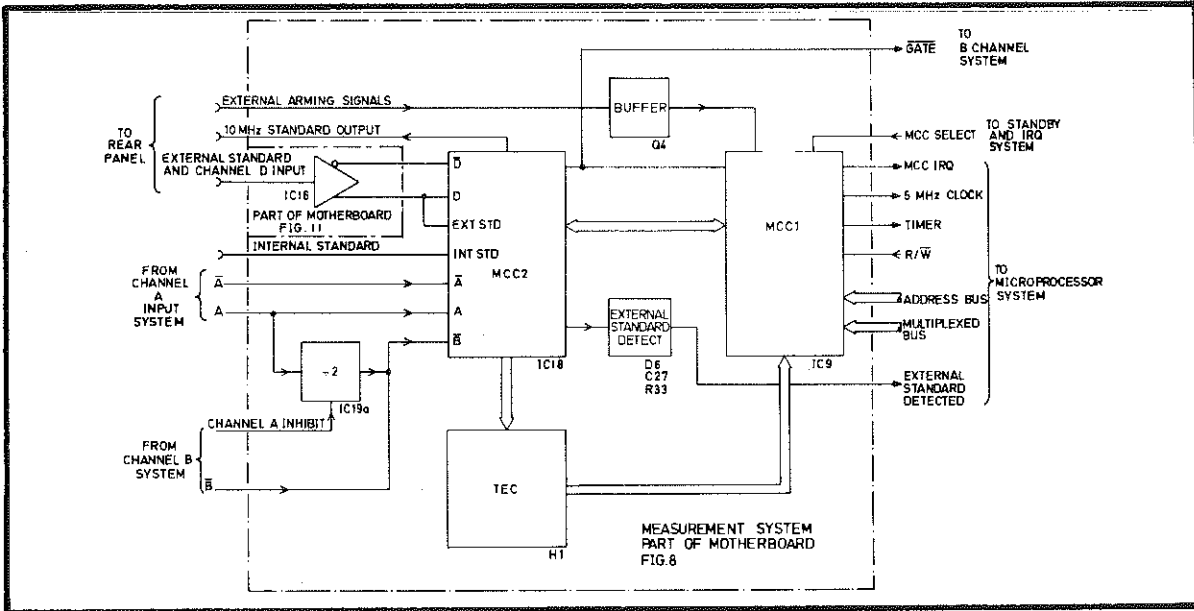

Fig 6.5 The Measurement System
- 51 The measurement circuits of the instrument are provided by three custom-built integrated circuits. These are the two Multiple Counter and Control (MCC) circuits, MCC1 and MCC2, and the Timing Error Correction (TEC) circuit. A block diagram is shown in Fig 6.5.